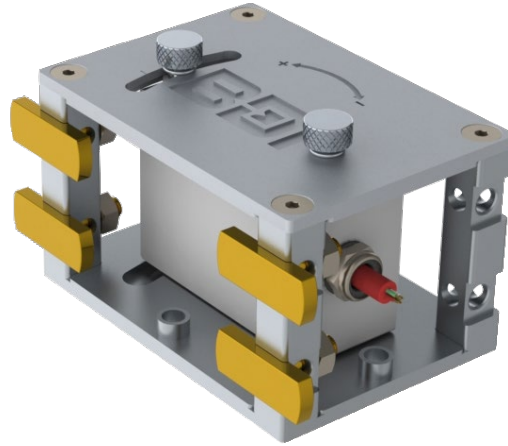

Figure 7: Mounting Tabs Attached for Bottom Mounting
1. Place 4 tabs in mounting holes (in this case, the four bottom holes as shown in Figure 7) and tighten the 1/4-20 (or M6) nuts to approximately 40 in-lbs (4.5 Nm). Note that the Top, Bottom, and End Mountings have machined slots to hold the tabs. The back mount does not have machined slots so a vise grip (or similar tool) will be needed to hold the tab in place while tightening.